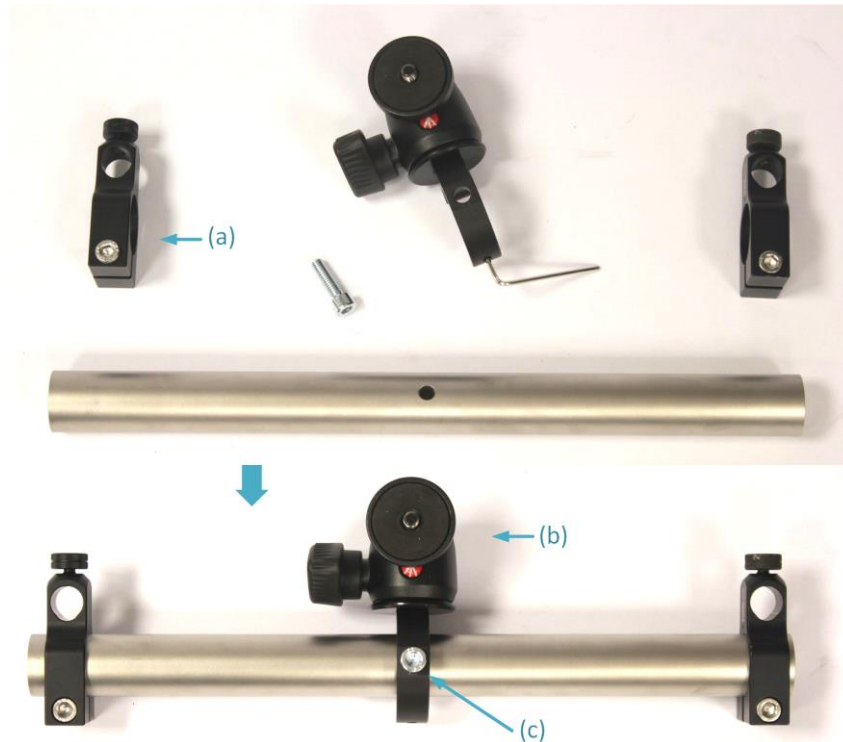

Figure 9. Assembly of the top post for camera mount
Step 3.4 Assemble the top rod with tripod head (Figure 9)